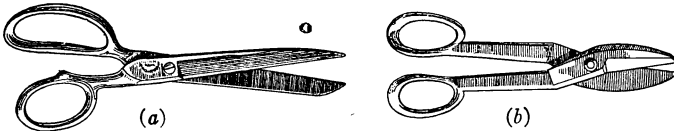

FIG. 88.—(a) Paper shears.
2. Fig. 88*a* represents a pair of paper shears, 88*b* a pair of tinner's